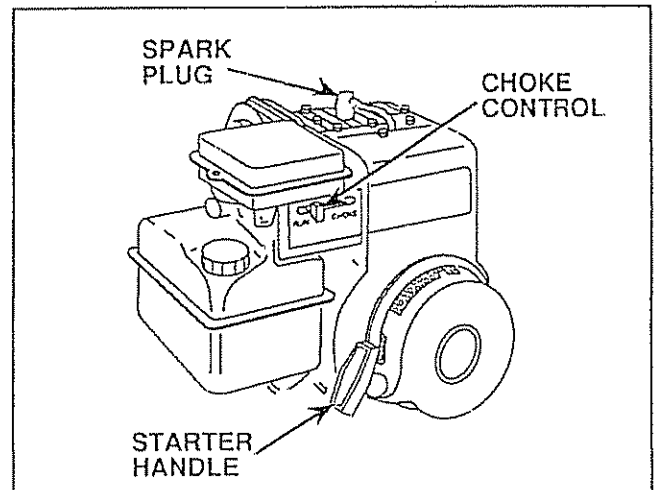

FIGURE 11
- Make sure Spark Plug Wire is properly connected (Fig. 11).
- Place Choke Control in "CHOKE" position (Fig. 11) if the Engine is cold. A warm Engine may not require choking to start.